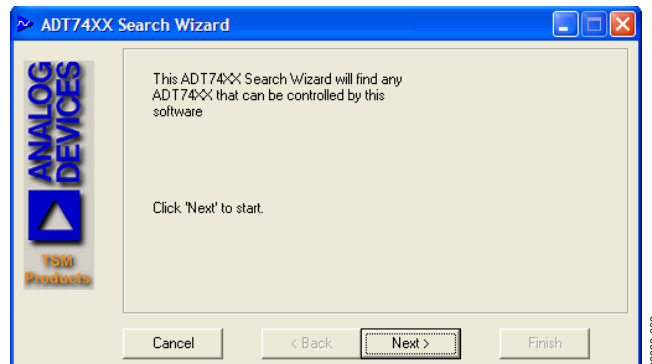
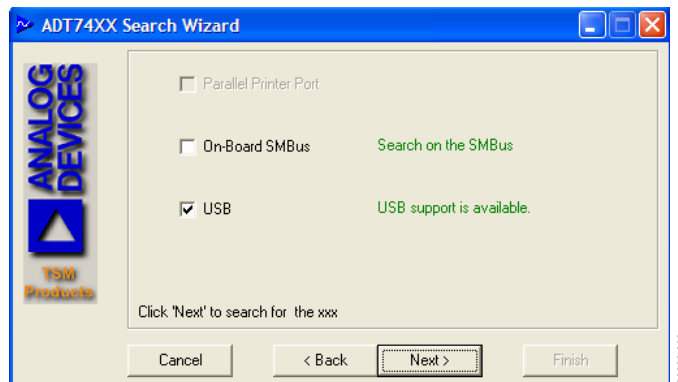
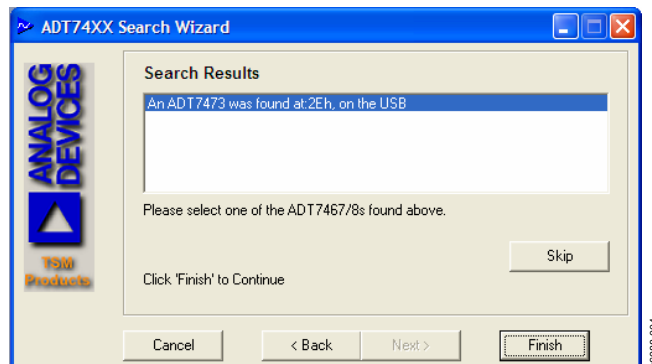

Figure 3. Finding the Device
Figure 4. USB Search for ADT74XX Devices
Figure 5. Search Results
3. The ADT74XX software, once started, looks for the device it is about to communicate with. The following dialog boxes appear (see Figure 3, Figure 4, and Figure 5).